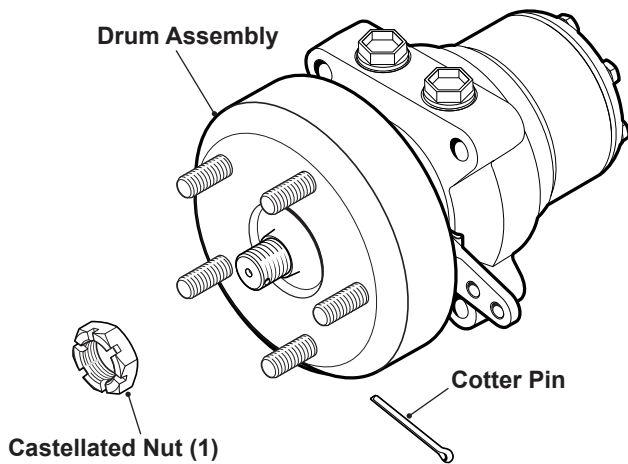

Figure 1, Drum Assembly
1. Remove the cotter pin. See *figure 1*.
2. Remove the castellated nut (1). See *figure 1*.
3. Remove the drum assembly. See *figure 1*.